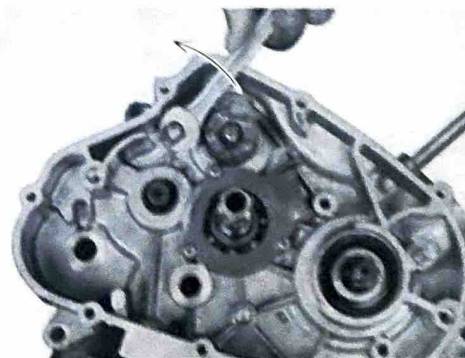

Fig. 4-14-5
b. Checking the gear Shift Arm Spring (Refer to Fig. 4-14-5).